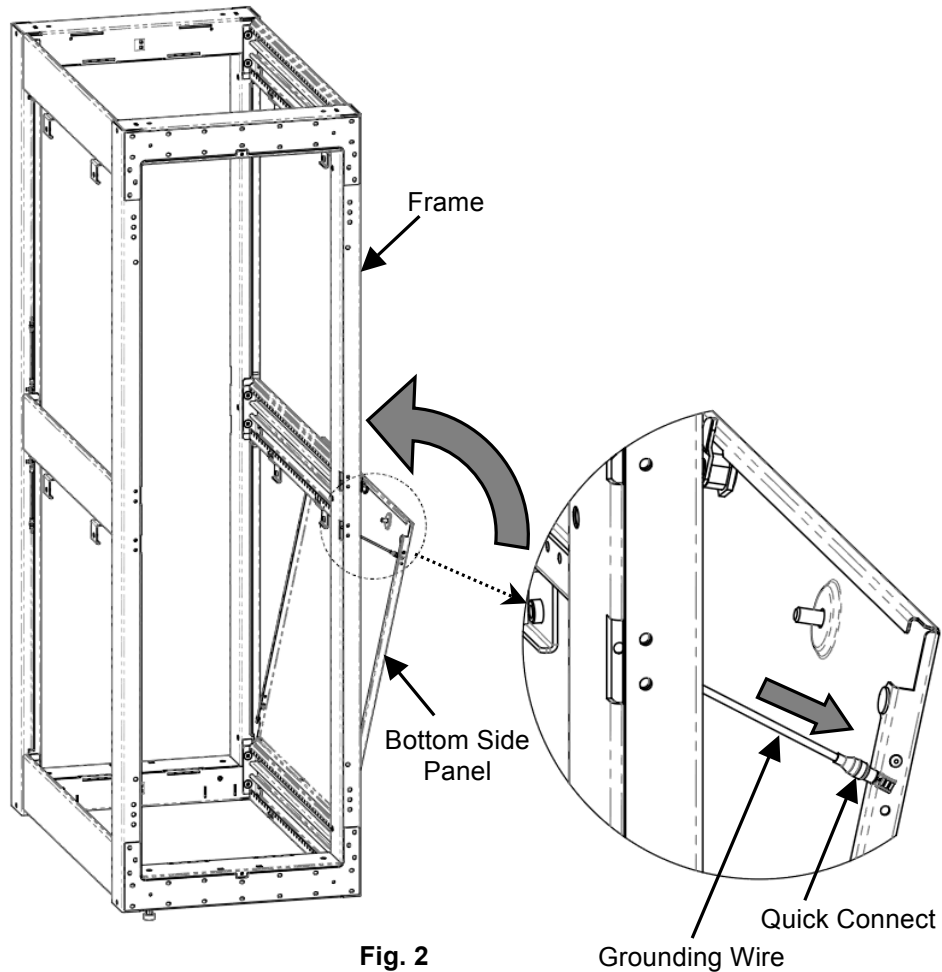

Fig. 2
2. Rest the bottom side panel on the lower frame slide. Swing the bottom side panel towards the frame. Attach the grounding wire using the quick connect on the bottom side panel (Fig. 2).